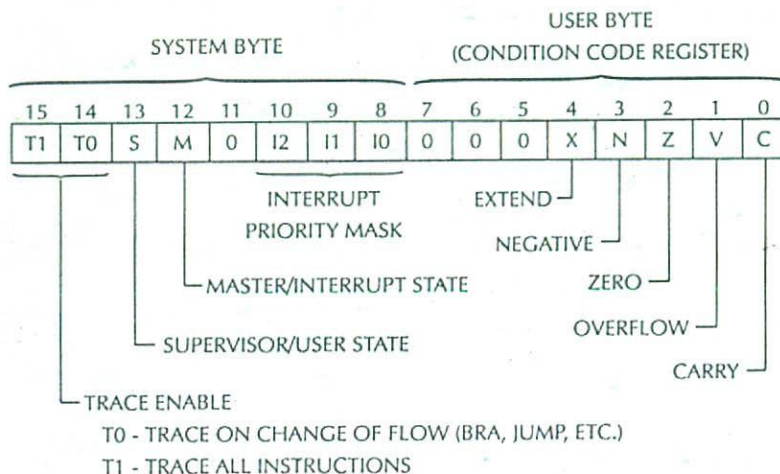

FIGURE 6.2 MC68020 status register.
The status register (Figure 6.2) consists of a user byte (condition code register CCR) and a system byte. The system byte contains control bits to indicate that the processor is in the trace mode (T1, T0), supervisor/user state (S), and master/interrupt state (M). The user byte consists of the following condition codes: carry (C), overflow (V), zero (Z), negative (N), and extend (X).